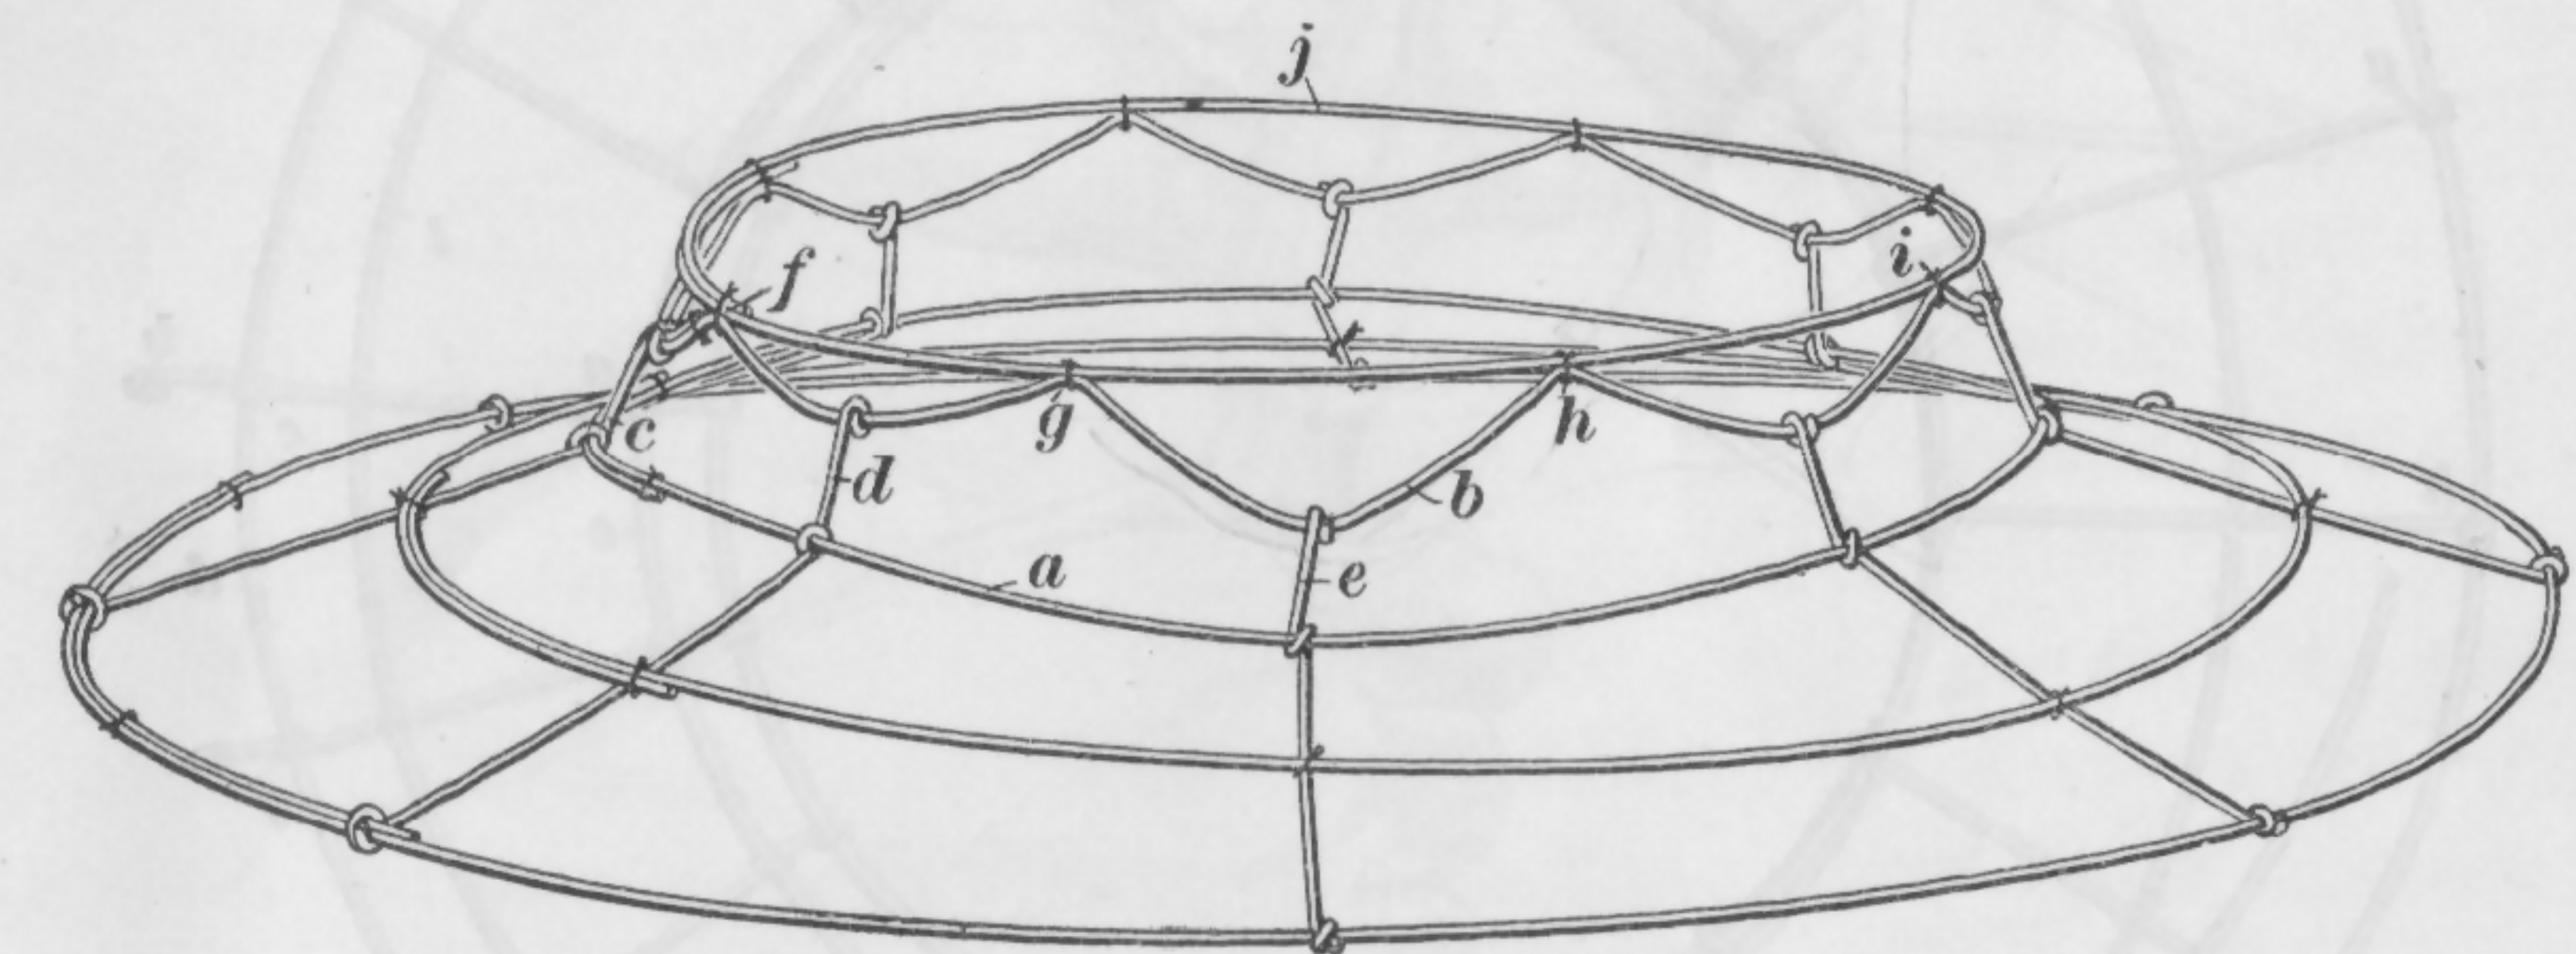

FIG. 10
A simple method of attaining this result is shown in Fig. 10. The illustration shows a brim whose head-size wire  $a$  and top brace wire  $b$  originally were of the same size and form, and both too large for the wearer. The wire  $b$  was directly above the wire  $a$  and the short ends  $c$ ,  $d$ ,  $e$ , etc., of the support wires stood straight up and down.
17. To reduce the head-size of the brim, bend the top brace wire  $b$ , Fig. 10, upwards at the points  $f$ ,  $g$ ,  $h$ ,  $i$ , etc., midway between the points where the support wires are fastened. The effect of these bends will be to shorten the wire  $b$  and at the same time to cause the short ends  $c$ ,  $d$ ,  $e$ , etc., of the support wires to slant inwards. The amount of bending at the points  $g$ ,  $h$ ,  $i$ , etc., depends on how much the wire is to be shortened; the greater the amount of shortening required, the more must the wire  $b$  be bent. The bending should be continued until the wire  $b$  is shortened to such an extent that the